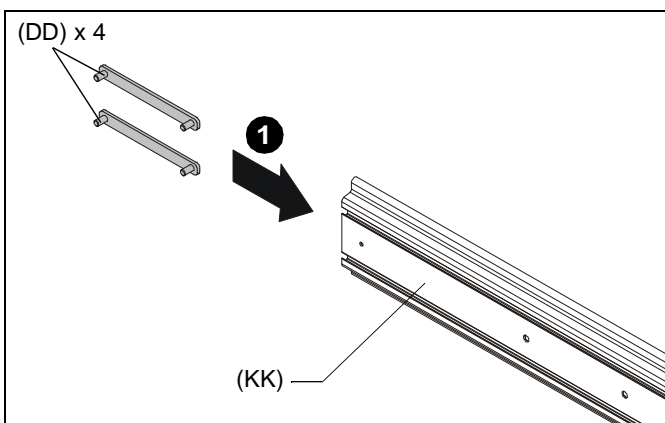

Figure 2
1. Slide four T-slot studs (DD - two in top mounting rail slot and two in bottom) into end of mounting rail (KK). (See Figure 2)